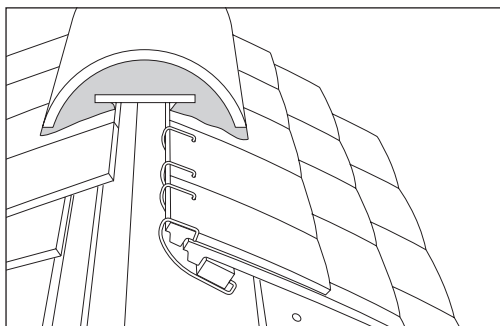

Fig 51 – Mechanical fixing of top course plain tiles using spring clips
- Use a single course with 200mm long eaves/top tile mechanically fixed with special stainless steel spring clip (Fig 51). (Code 30332).